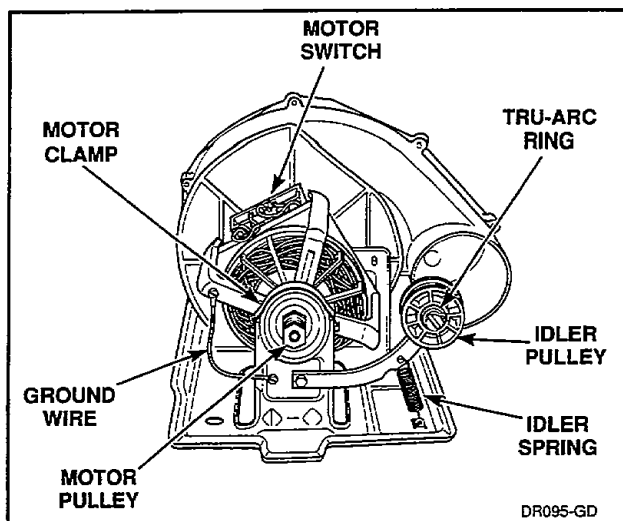

Figure 27
Refer to *Figure 27* for motor and idler pulley removal.
- (2) Disconnect ground wire from motor, *Figure 27*.
- (3) Pry two motor clamps off motor mounting bracket with screwdriver, *Figure 27*, then lift motor out of mounting bracket.
NOTE: When replacing motor, motor switch location should be at 10 o'clock position (viewed from pulley end, *Figure 27*) with the positioning tab on the motor engaged with the anti-rotating notch in the motor bracket.